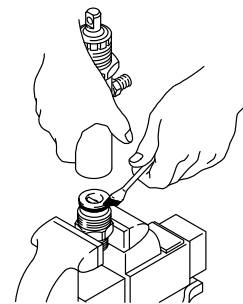

Fig. 34 02577
- Grease the intake valve o-ring with non-silicon grease. Screw the pump cylinder into the intake valve. Torque to 70 ft-lb (95 N.m). See Fig. 34.